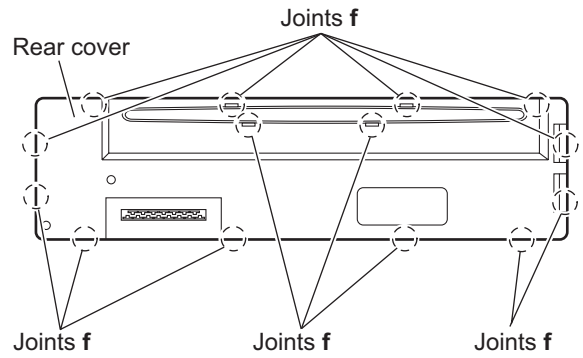

Fig.9
- Release the joints **f** and remove the rear cover. (See Fig.9.)